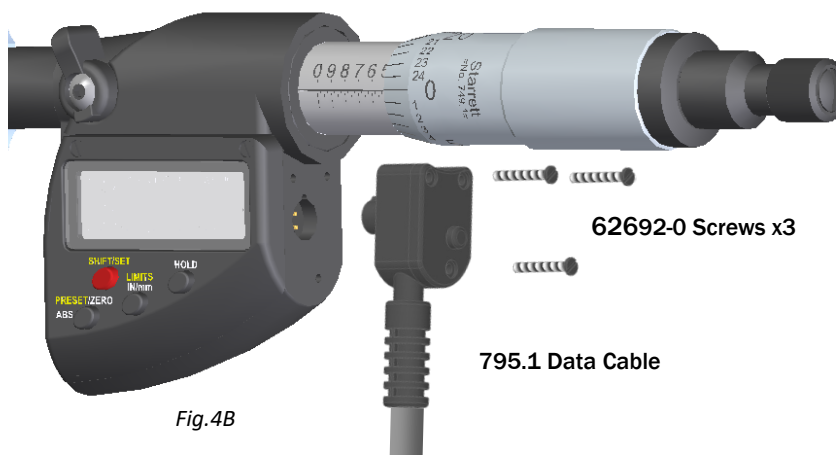

Fig.4B
- Fig.4B*, Use the three screws that came with the data cable to attach the cable to the tool. The output gasket should not be used, because the cable connection is made of a material that acts as a gasket. Notice, the data cable screws are longer due to the thickness of the connector.